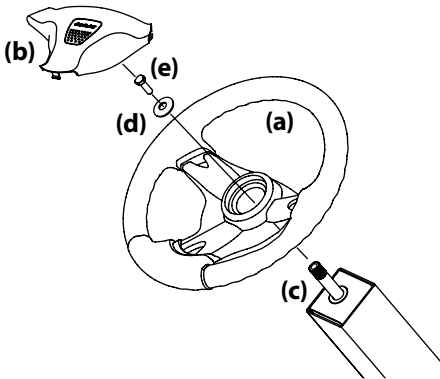

Figure 2-7
- Remove the hardware for attaching the steering wheel (a) from beneath the steering wheel cover (b). Carefully pry off the steering wheel cover (b) to remove the hardware. See Figure 2-7.
- With the wheels of the tractor pointing straight forward, place the steering wheel (a) over the steering shaft (c). See Figure 2-7.
- Place the bellville washer (d) over the steering wheel (a) and secure with the hex screw (e). See Figure 2-7.
- Place the steering wheel cover (b) over the center of the steering wheel (a) and push downward until it "clicks" into place. See Figure 2-7.